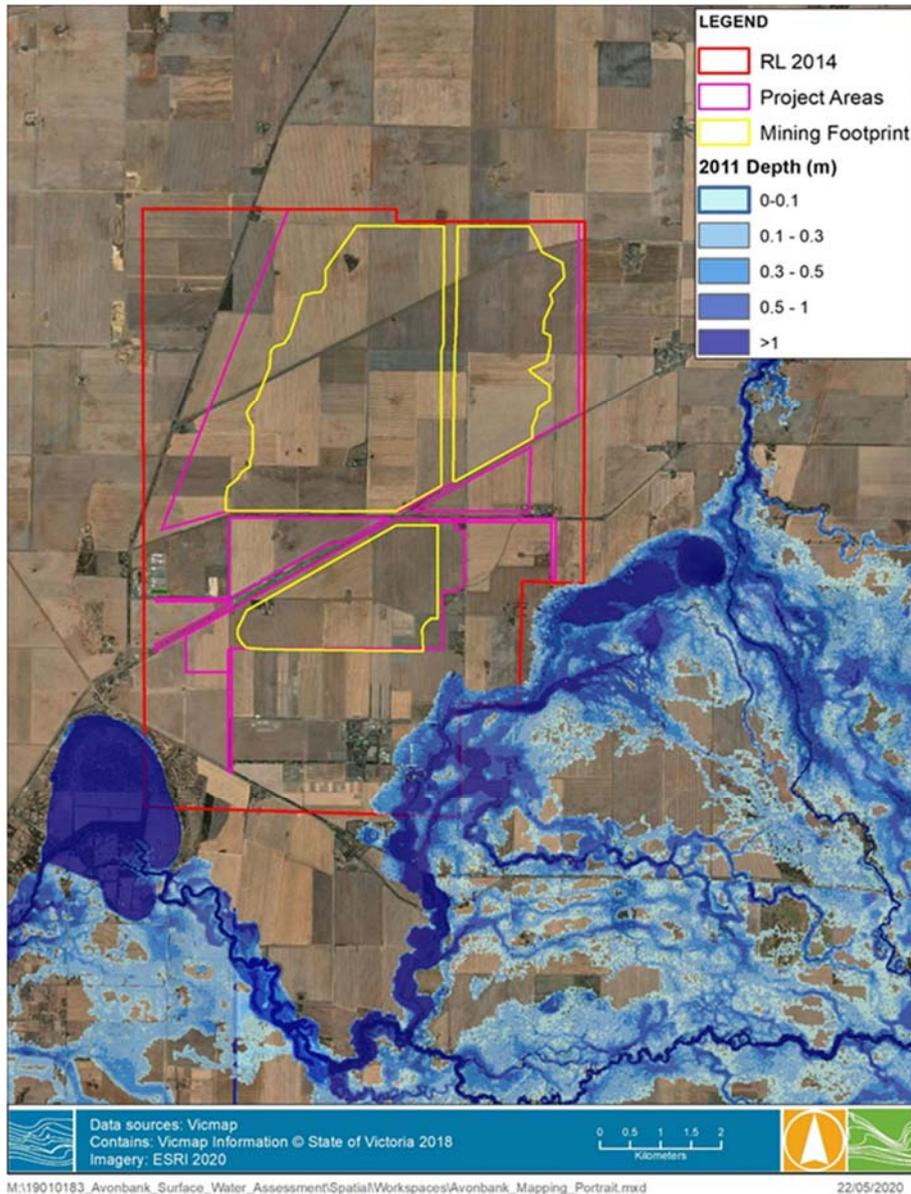

Figure 2: Riverine flooding at Avonbank for January 2011 event
- ◆ The January 2011 flood event in Two Mile Creek and the Wimmera River was regarded as more than a 1:100 year flood event (figure 2).